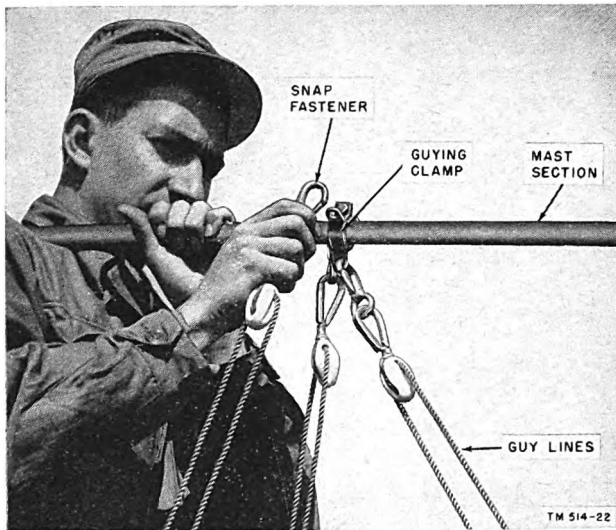

Figure 34. Connecting snap fastener to clamp on mast section.
- (1) Remove the guy line assemblies and stakes from Chest CY-359/CRD-2.
- (2) Attach three guy lines to each monopole by connecting the snap fasteners to the guying clamps located near the top of the third mast section (fig. 34).
- (3) Drive four guying stakes into the ground toward the outer edge of Counterpoise MX-313/CRD-2, one stake in line with each horizontal support. Each stake should be approximately 10 feet from the nearest antenna support when one horizontal support is used and 20 feet from the nearest antenna support when two horizontal supports are used.
- (4) From the mast being erected, attach one guy line to the antenna support at the right of the mast. Fasten a second guy line to the stake in line with the mast ((3) above).